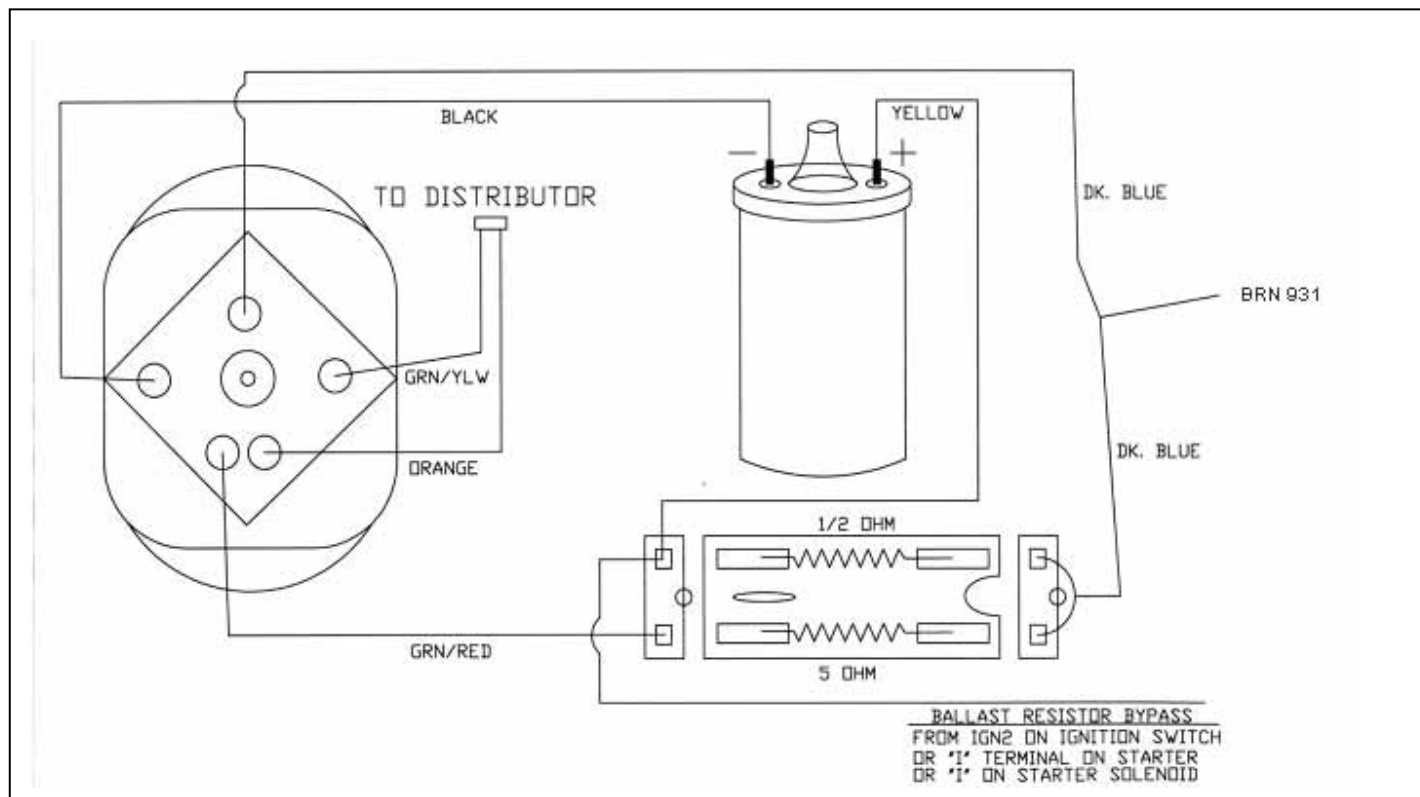

Figure 7-2B Mopar Electronic Ignition with Dual Ballast Resistor
- 7.2.11 Connect 920 (BRN) to both dark blue wires as labeled in Figure 7-2B. Connect a ballast bypass wire as labeled in Figure 7-2B. **NOTE:** This ballast bypass wire will only provide 12 volts when cranking the engine. This is done for ease of starting the engine.